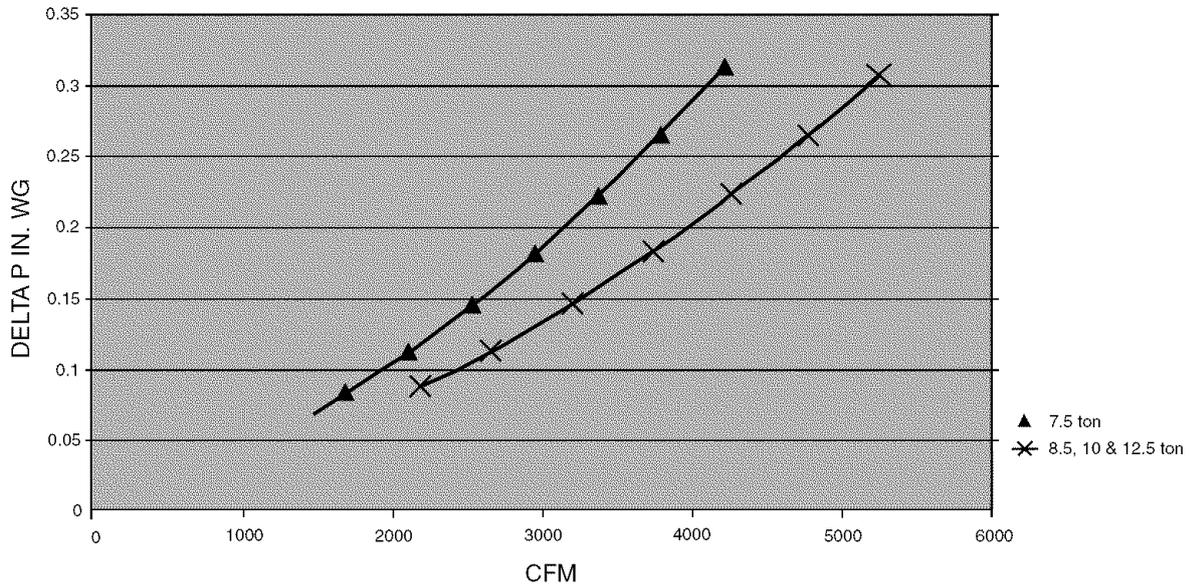

Fig. 43 — Humidi-MiZer™ Adaptive Dehumidification System Static Pressure Drop (in. wg)
Tables 10 and 11 show fan rpm at motor pulley settings or standard and high-static motors. Tables 12 and 13 show evaporator-fan motor data. See Tables 14 and 15 and Fig. 43 for accessory and option static pressure drops. Refer to Tables 16-29 to determine fan speed settings.
2. Values include losses for filters, unit casing, and wet coils. See Tables 14 and 15 and Fig. 43 for accessory/FIOP static pressure information.